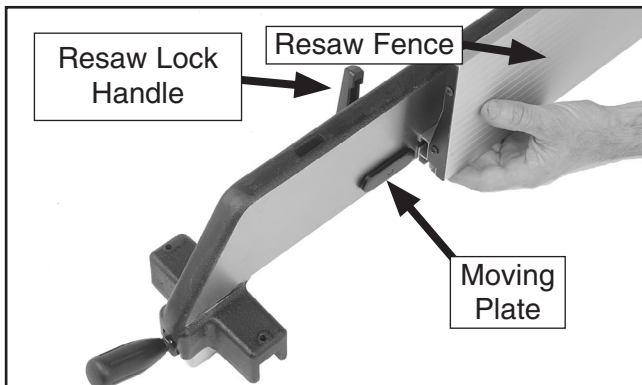

Figure 5. Attaching resaw fence to standard fence.
4. Install the resaw fence lock handle (with the washer and moving plate) onto the fence, then slide the resaw fence over the moving plate as shown in **Figure 5**.